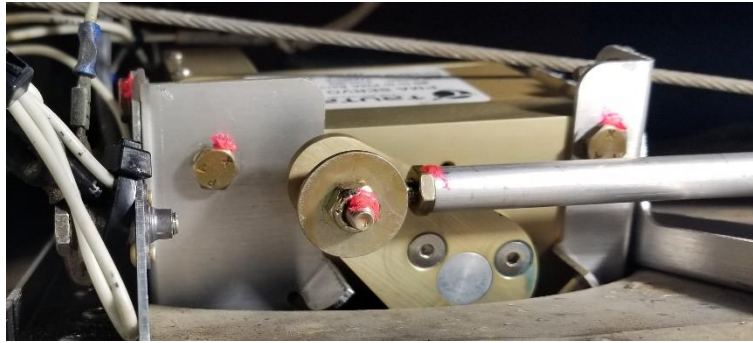

Figure 3-14
- 10.5. Move the yoke to the full aft position and ensure the servo arm is not in contact with the forward servo stop. See figure 3-14. If the servo arm is contacting the servo stop perform factory setup procedure for elevator stops.